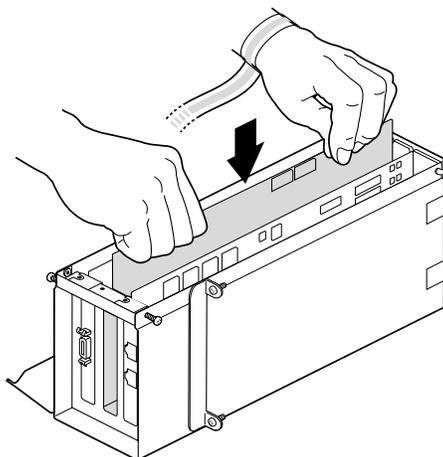

Figure 4-16 Inserting a PCI Board into the PCI Module
4. Insert the PCI board into the connector in the PCI module, as shown in Figure 4-16. Push gently but firmly until the PCI board snaps into place.